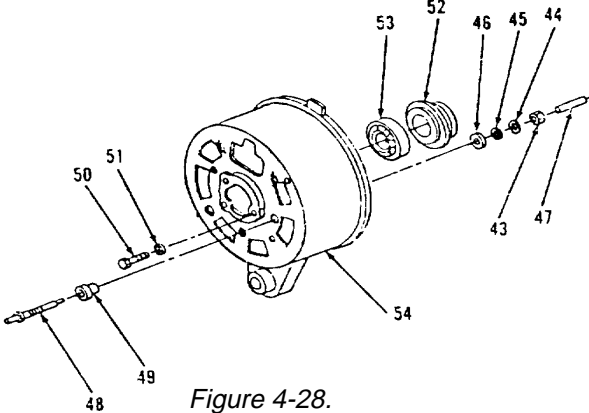

Figure 4-28.
- 33. Remove diode assembly (39) from frame (54).
- 34. Remove insulator (40) and washer (41).
- 35. Remove two bushings (42).
- 36. Remove nut (43), lockwasher (44), washer (45), insulators (46 and 47), pin terminal (48) and bushing (49) from frame (54, Figure 4-28).
- 37. Remove three screws (50), lockwashers (51) and ring (52).
- 38. Remove bearing (53).